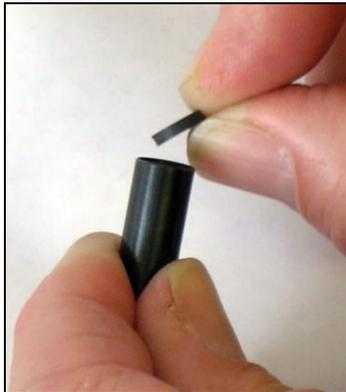

Figure 5
1. Take the new plunger and plunger seal from the kit. Install the seal into the end of the plunger making sure it is seated all of the way (**Figure 5**).